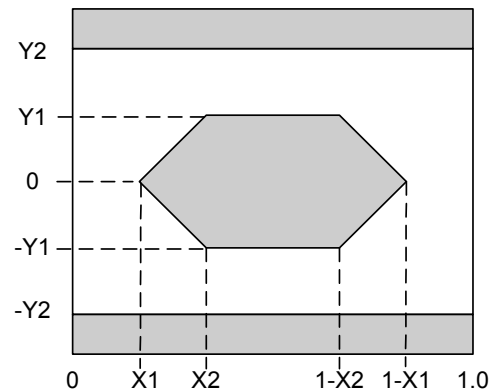

Figure 6.1.3.
- 5: Eye Mask is defined in Figure 6.1.3